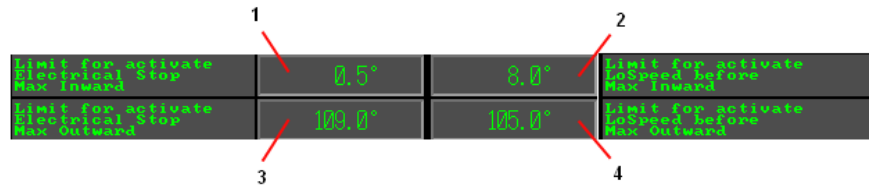

Figure 5-23 Knuckle Jib Angle – Setting up limits for stop and low speed activation
- Push field 1 (refer to Figure 5-23) and input value for electrical stop max inward position.
- Push field 2 (refer to Figure 5-23) and input value for activating Low Speed (KNUCKLE JIB IN) before electrical stop max inward position.
- Push field 3 (refer to Figure 5-23) and input value for electrical stop max outward position.
- Push field 4 (refer to Figure 5-23) and input value for activating Low Speed (KNUCKLE JIB OUT) before electrical stop max outward position.